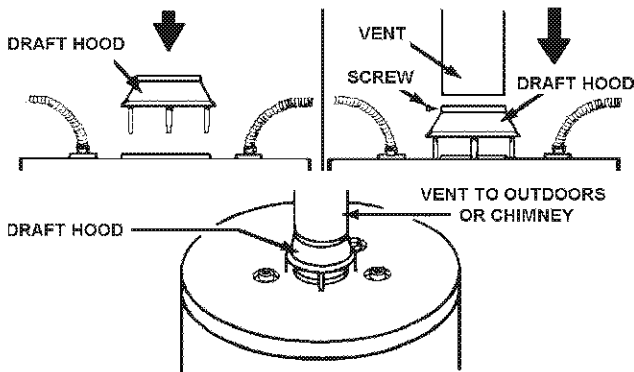

FIGURE 17.
- Place the vent pipe over the draft hood. With the vent pipe in position, drill a small hole through both the vent pipe and draft hood. Secure them together with a sheet metal screw. See Figure 17.